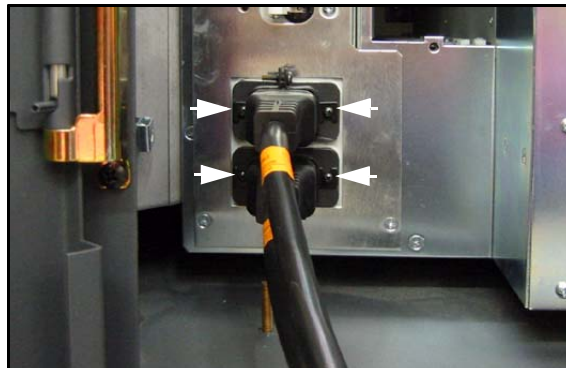

Figure 10 *The four black screws over the cord locks.*
- Plug the cords into the plugs and tighten their four black screws over the cord locks (Figure 10).